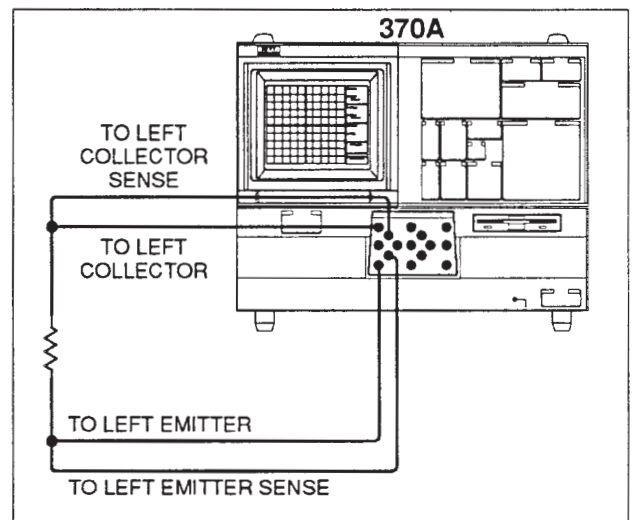

Figure 4-3. Checking Collector high current range.
i. Connect the 0.025 Ω resistor as shown in Figure 4-3, then close the Protective Cover.